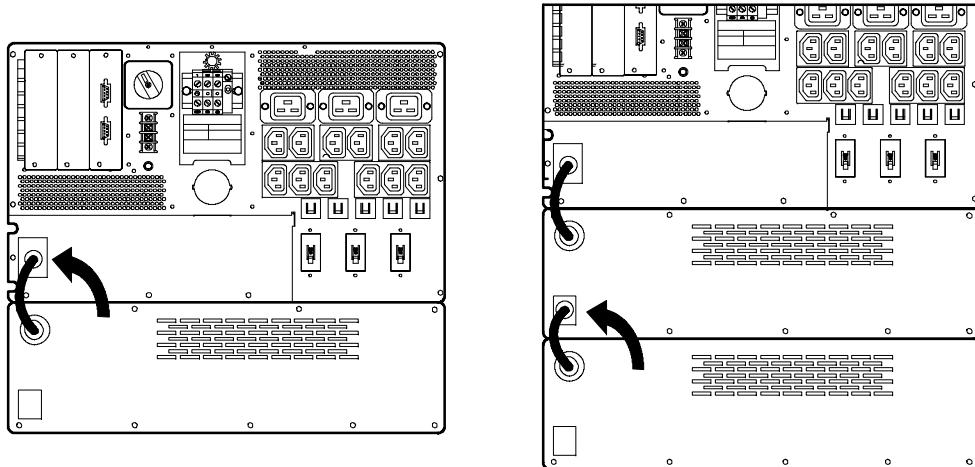

Figure 6. Connecting the EBM Cables
3. Connect the EBM cable to the UPS (see Figure 6). If installing a second EBM, connect the EBM cable to the first EBM.